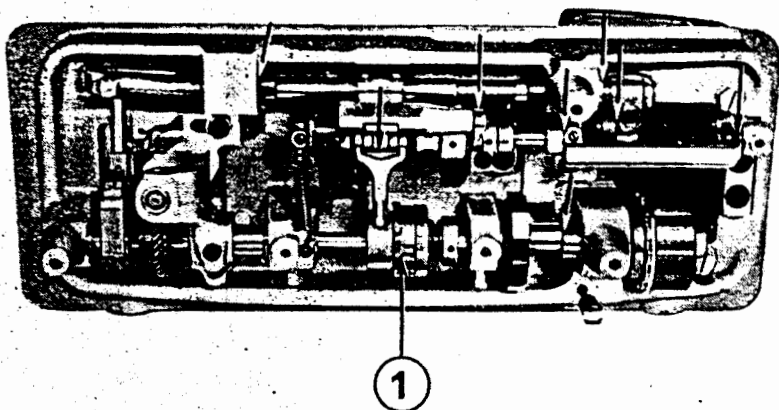
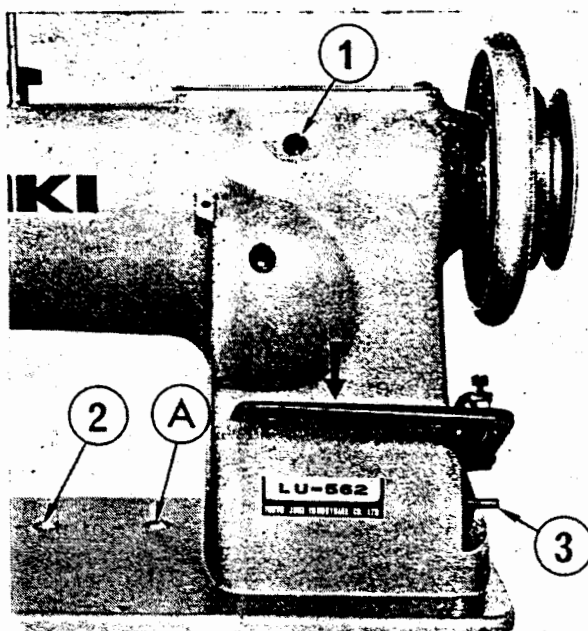
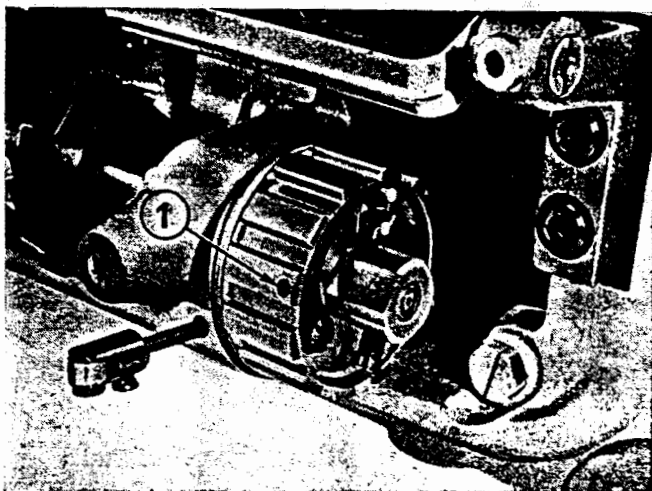
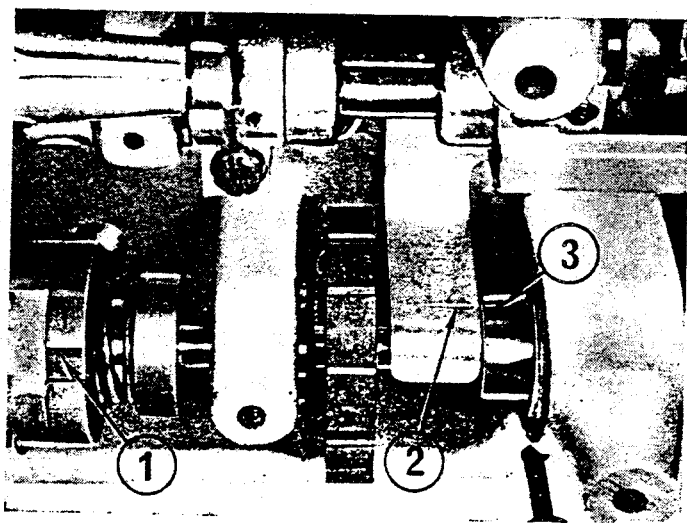

Fig. 5
Fig. 12
Fig. 15
Fig. 26
The graduation of the stitch length is marked on the feed graduation plate attached to the main shaft. (Fig. 12 ①).
To adjust the stitch length, rotate the hand wheel slowly as you keep on pressing the push-button (Fig. 12 ②) atop the bed until the tip of the push-button enters the groove (Fig. 5 ①) of the eccentric mechanism.
hole of the arm (Fig. 12 ①). When the desired stitch length indicating mark appears on the hole, release the push-button. But please note that the figure which appears on the hole of the arm (Fig. 12 ①) means so many stitches per 25.4 mm (1").
For reverse sewing, push the feed lever (Fig. 12 ③) downwards until it hits the stopper. As long as this lever is kept down, the machine will do reverse sewing.
To set the safety clutch correctly, rotate the hand wheel strongly in the reverse rotational direction as you keep pushing the button (Fig. 12 ④). To adjust the applying pressure of the safety clutch, release the timing belt and turn the adjusting screw (Fig. 15 ①). If this screw is rotated to right, the applying pressure will increase and the clutch becomes difficult to be released, while if it's turned to left, the applying pressure becomes less and the clutch becomes easier to be released.
To adjust the correct position of the feed graduation disc (Fig. 12 ①), at first loosen the set screws of the graduation disc. Then, adjust the stitch length to 3.17 mm ( $1/8'' +$ ) (Place a paper under the presser foot, rotate the hand wheel with your hand and after 11 stitchings, the overall length should become 31.7 mm ( $1-21/32''$ )). Next, rotate the hand wheel while pressing the push button (Fig. 12 ②) until the tip of the push button engages with the notch of the ratchet pawl on the feed rocker driving eccentric (Fig. 26 ①) and when it is inserted, tighten the graduation disc to the main shaft so that the graduation scale of 8 comes out to the hole of the arm (Fig. 12 ①).
When hanging the belt to the lower sprocket, rotate the hook shaft with your hand with the thread take-up in the highest raised position, and after matching the hook shaft indicator's arrow point (Fig. 26 ②) with the arrow point of the hook shaft rear bushing (Fig. 26 ③), hang the belt to the lower sprocket. Thus, the feed timing with respect to the needle bar becomes correct.